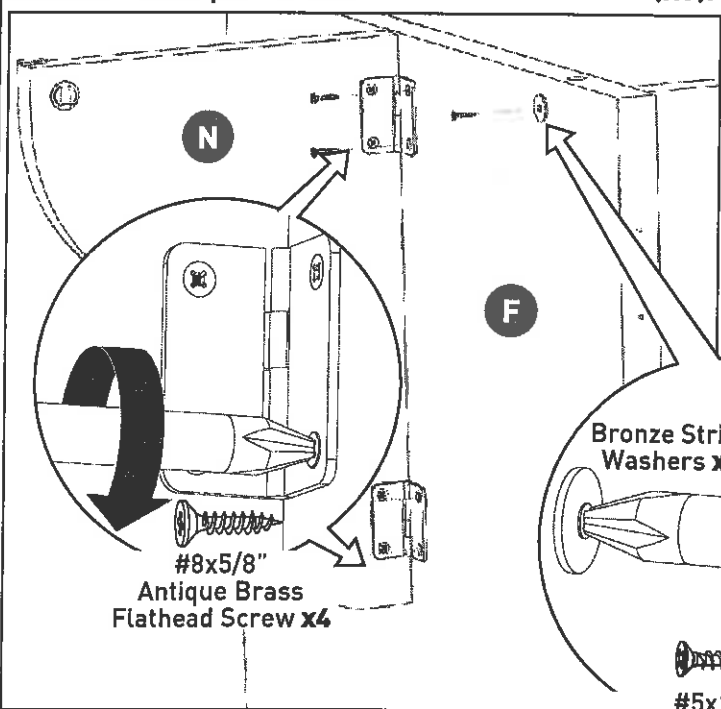

FIG. 20
**Step 21.** Using 2 people CAREFULLY lift and turn the cabinet right side up placing the unit on the 4 casters. **Step 22.** Attach both Leaf Supports (R & N) to outside of Left Side (E) & Right side (F) with #8x5/8" Antique Brass Flathead Screws (x8).
Part (R) will attach to Left Side (E) (Fig. 21) & N to Right Side (F) (Fig. 20). Attach the Bronze Strike Washers (x2) with #5x1/2" Flathead Screws (x2) to both Side Panels (E & F).